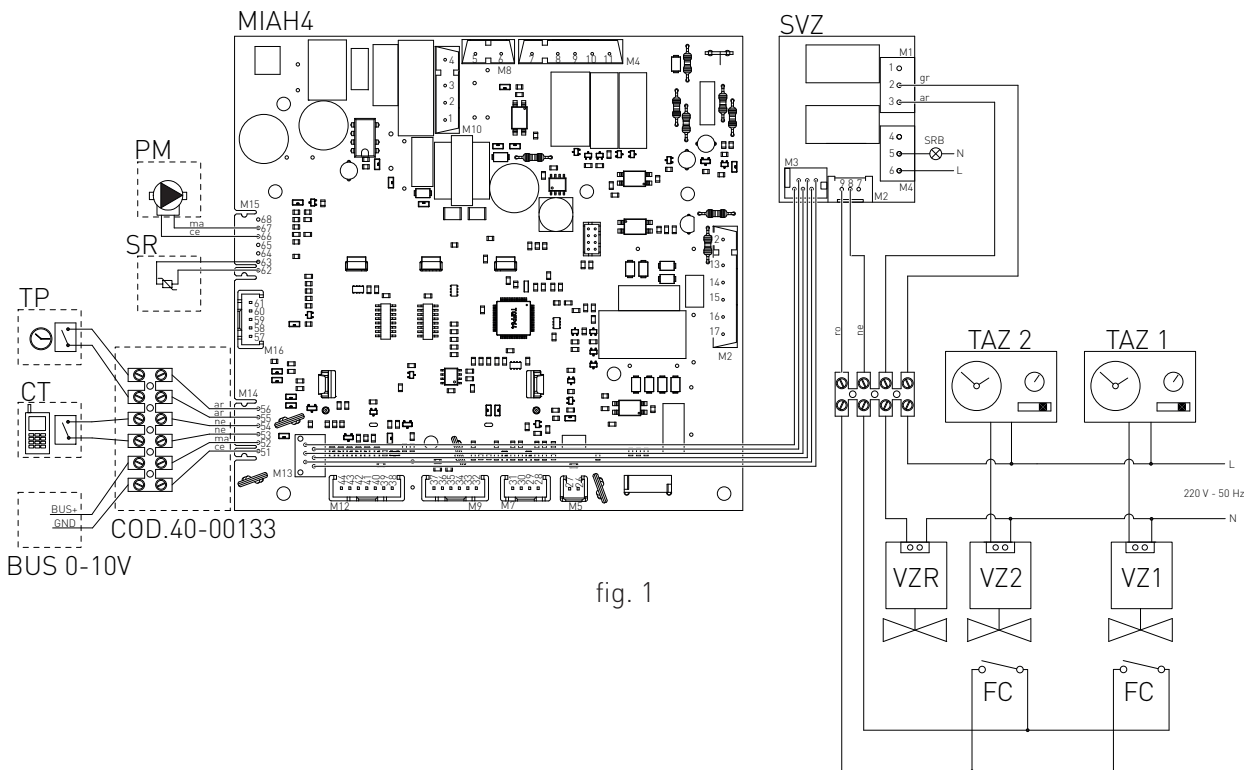

fig. 1
- > after removing the crankcase, connect the items below to the electronic board (see fig. 1):